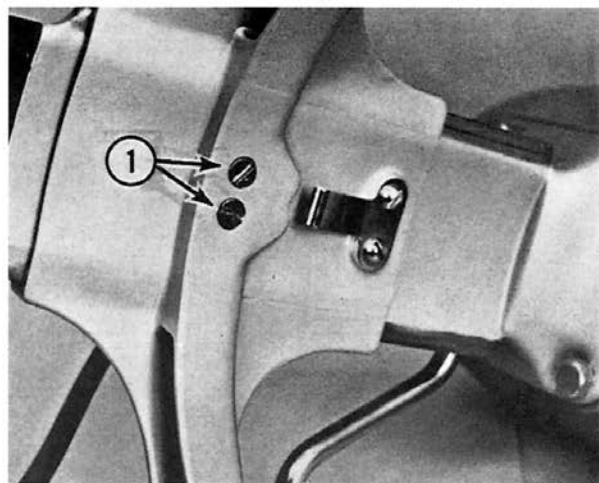
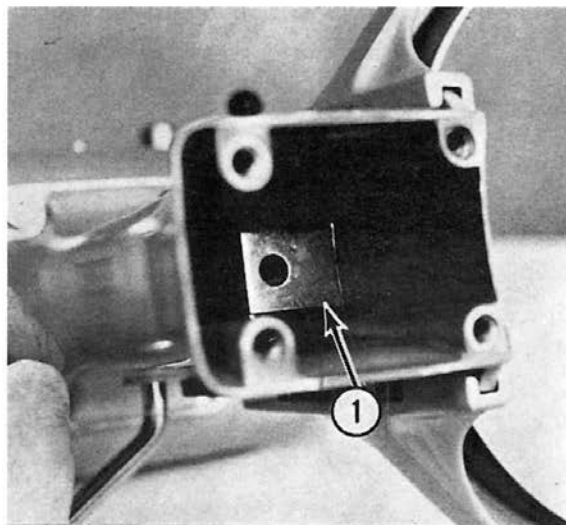

Fig. 5-3
Fig. 5-4
- C. Remove the two flat head screws (1, Fig. 5-3).
- D. Let the bowl support drop down enough to allow the bowl lift rod to disengage itself from the bowl lift bracket (1, Fig. 5-4). Remove the bowl lift bracket. The bowl support can now be taken off the column.
- B. Place the bowl lift bracket (1, Fig. 5-4) through the bowl support and fasten it with the two flat head screws (1, Fig. 5-3).